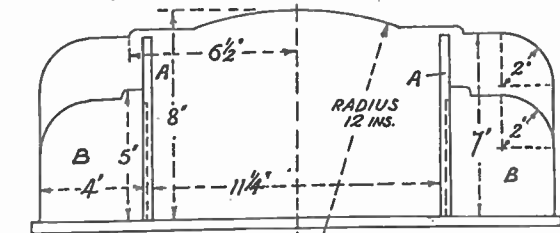
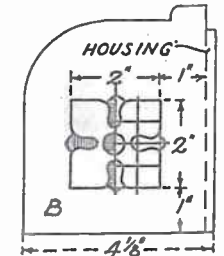

Fig. 2—Details of the back and two side uprights
Fig. 4—Showing the design for the side pieces
The rack shown here is 20ins. long and 8ins. high at the back, and it stands on a base 20½ins. long and 7ins. wide. Wood ½in. is used throughout, and while the construction is simple, the article must be strongly put together with glue and screws. In places, the simple open mortise and tenon joint should be used. The back is cut from a piece 20ins. long by 8ins. wide, and the shaping may be set out from the measurements given in Fig. 2. To get a firm fixing between the back and the outstanding divisional pieces (A), it is suggested the latter be tenoned into the back as shown in the detail Fig. 4. Here we see that a 3in. tenon is to be set out on the two pieces, the total width of these being 6½ins.
and note the 2ins. radius for setting out the rounded front. This also applies, as will be seen from Fig. 2, to the two extreme top corners of the back board.
It only remains now to add the finish to the wood, and if some simple decoration should be desired, then that shown on the two ends might be added in some contrasting colours. The design shown can be enlarged by means of the ¼in. squares given in Fig. 4. Only a half, or even a quarter, of the design need be drawn, the rest of the work being put in
In Fig. 4 is shown the outline of one of the uprights (B). Each measures 5ins. high by 4½ins. wide, this width includes the housing which is ½in. wide. Note again that the curved outline is cut to a radius of 2ins.